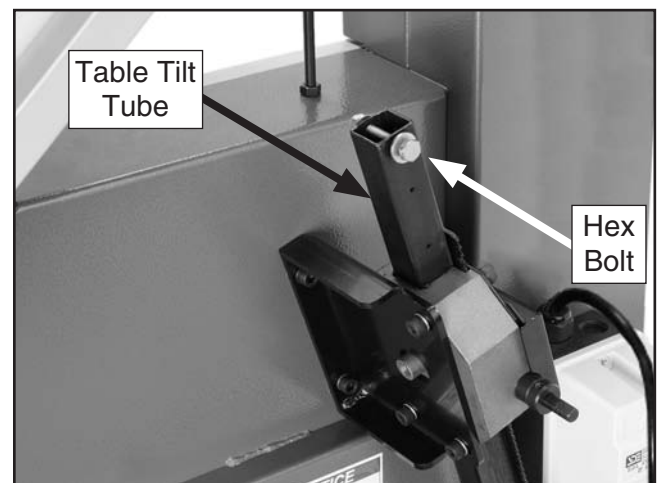

Figure 26. Table tilt assembly.
2. Remove the hex bolt, hex nut and flat washers installed on the geared table tilt tube (see **Figure 26**).